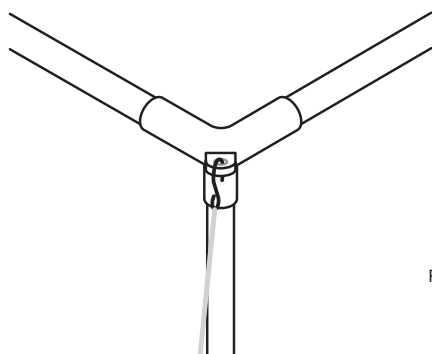

FIGURE 12
2. Attach the S-hook of the tension strap to the loop of the corner piece (Figure 12).
1. Attach the S-hook of the tension strap to the loop of the corner piece (Figure 12).